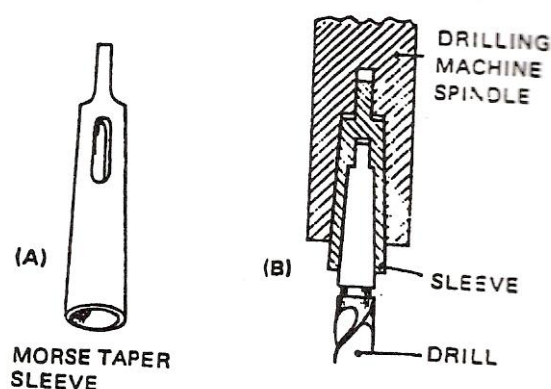

Figure 34 - Morse Taper Sleeves
Morse taper sleeves are used when the taper shank of a tool is too small for the machine socket in which it is to be used. The shank of the tool is inserted into the sleeve, which is then inserted into the tapered socket of the machine, Figure 34 (B). Sometimes, more than one sleeve is required. They are commonly used for holding such tools as 68 taper shank drills and reamers in drilling machine spindles, and in lathe tailstocks.